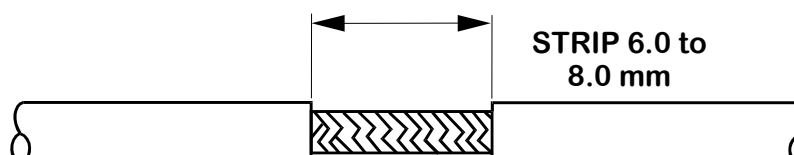

Figure 3-27
- a. For centre stripped cables rated above 125°C, prepare as per dimensions illustrated in Figure 3-27.